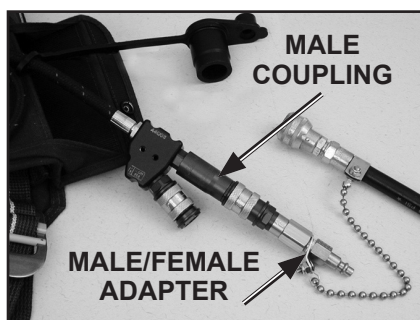

FIGURE 3
8. Insert female end of Male/Female adapter P/N 200112-SERIES into the male fitting on the dual manifold. Check that there is no evidence of flow from the end of the adapter. See FIGURE 3. Remove the adapter from the male coupling.